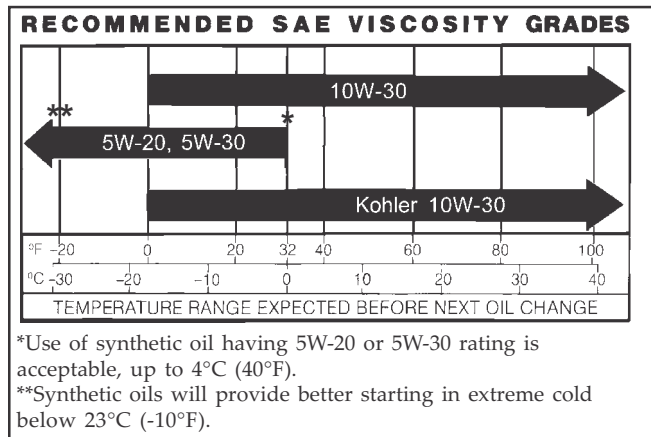

Figure 3. Viscosity Grades Table.
2. Be sure to use the proper oil for the temperature expected. See Figure 3 on page 4.